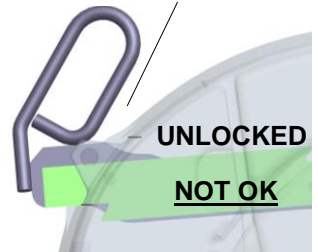

FIGURE 3B
- 3B. For Retractable Handle: Check that the RELEASE HANDLE LOOP is ADJACENT to the casting (see figure 3B).